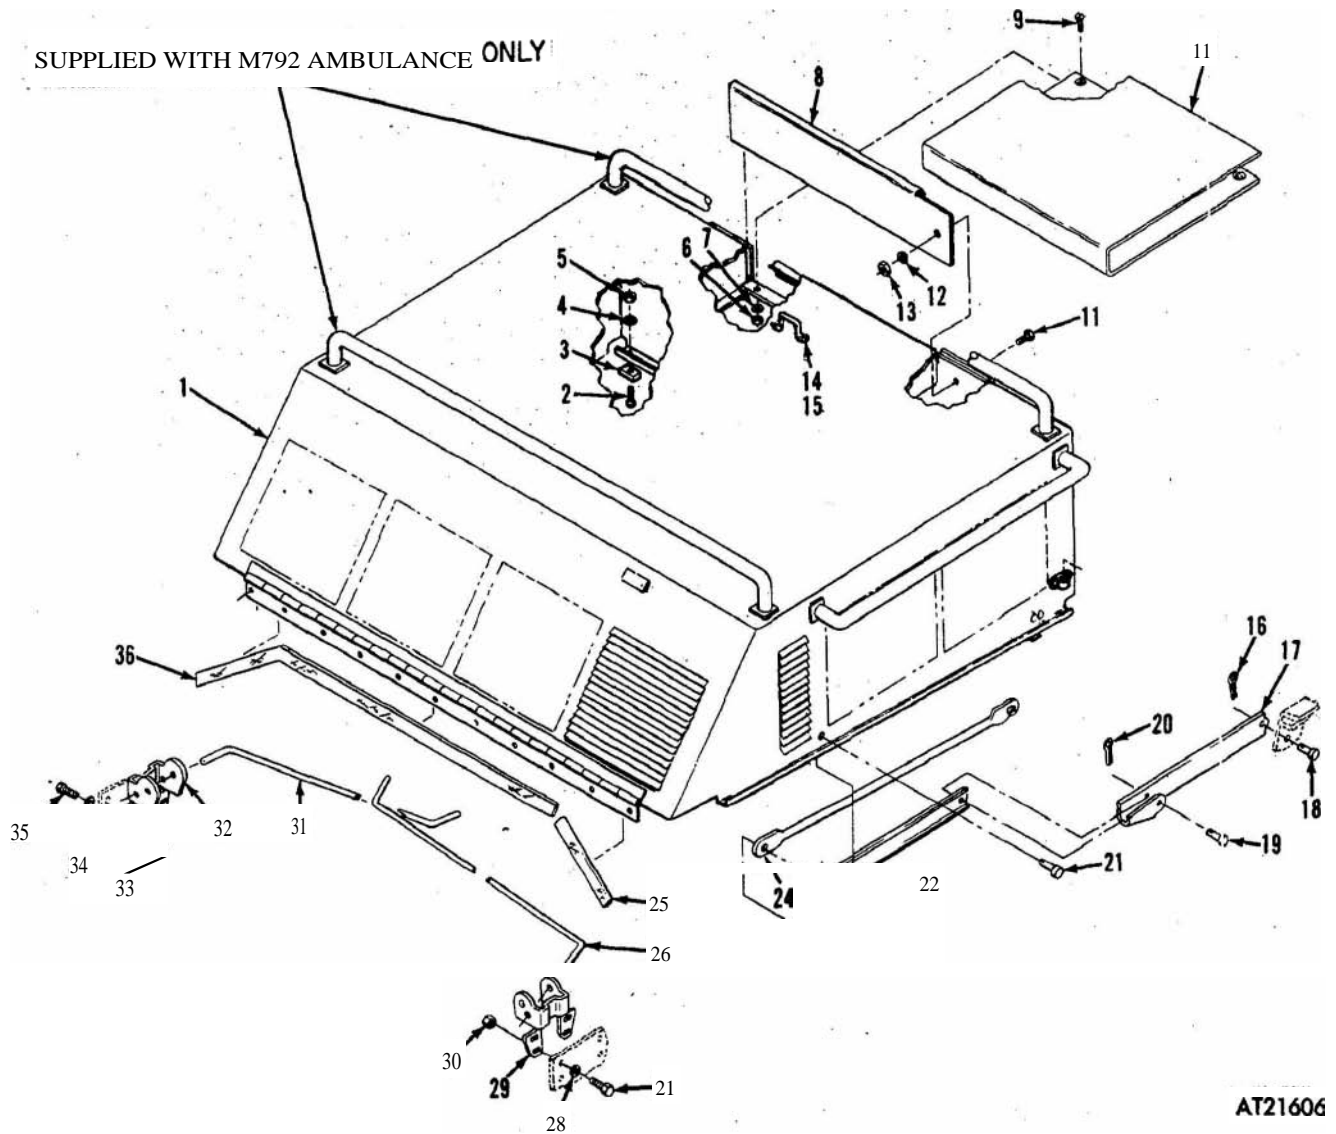

Figure 3-233. Engine cover assembly, exploded view.
(1) Disconnect arms (17 and 22, fig 3-233) and rod (24) by removing cotter pins (16, 20, and 23) and pins (18, 19, and 21).
LEGEND to fig 3-233:
## LEGEND to fig 3-233 - Continued: